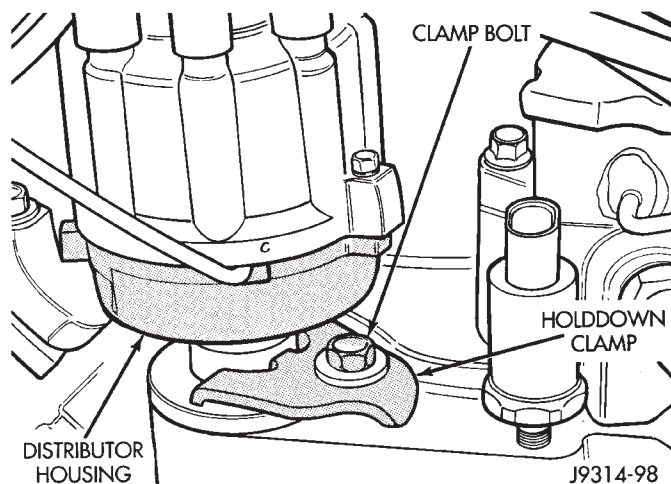

Fig. 35 Distributor Holddown Clamp—5.2L/5.9L Engines
- (11) Disconnect camshaft position sensor wiring harness 3-way connector from main engine wiring harness.
- (12) Remove distributor rotor from distributor shaft.
- (13) Remove distributor holddown clamp bolt and clamp (Fig. 35).
- (14) Remove distributor from vehicle.
(7) Tighten clamp holddown bolt (Fig. 35) to 22.5 N·m (200 in. lbs.) torque.
(8) Connect camshaft position sensor wiring harness to main engine harness.
(9) Install distributor cap. Tighten mounting screws.
(10) Install secondary cables to distributor cap.
(11) Refer to the following, Checking Distributor Position.